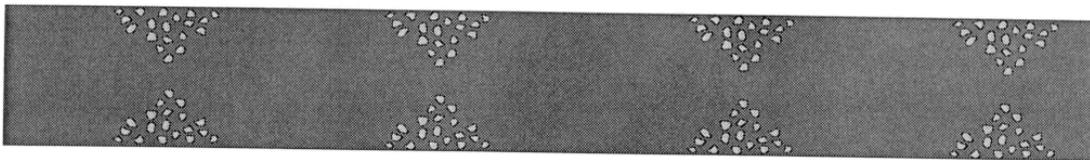

Figure 1. Truck End Segregation.
1. **Truck End Segregation:** Figure 1 shows a roadway with segregated spots, often referred to as wings, occurring longitudinally and on each side of the lane being paved. These wings constitute spots of coarse aggregate separated from the uniform mixture. They are typically much more open graded than designed and, if severe enough, will deteriorate in a short period of time, leading to a pothole in the road. Less severe truck end segregation may not appear until the road has been under traffic for several months. Truck end segregation is usually caused by improper truck loading, silo segregation, improper truck unloading, or running the hopper empty between loads.